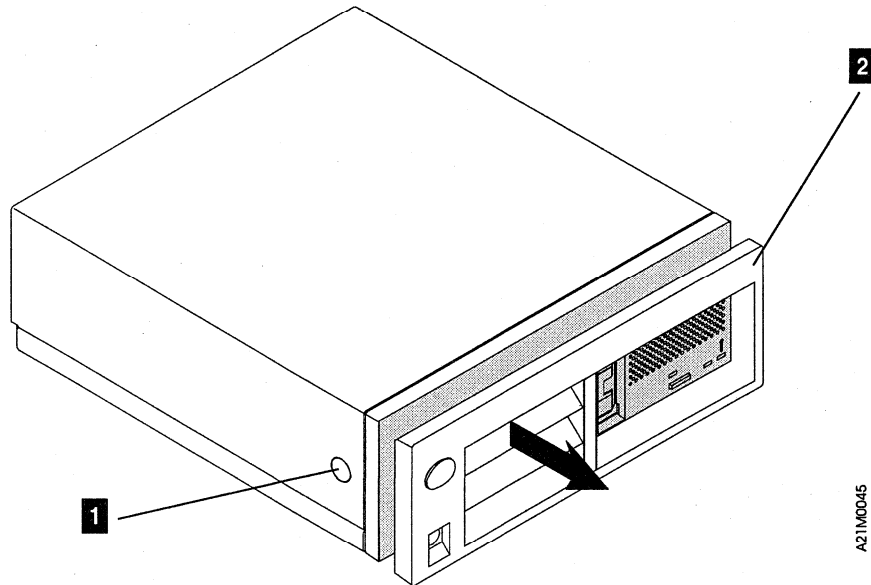

Figure 13. Removal of Model C00 Front Cover
2. Remove the front cover to expose the drive with its drive cover by pressing the buttons on each side of the front cover and pulling forward (see **1** and **2** in Figure 13).
**Note:** There is a corresponding tab on the opposite side of the chassis to the one shown as **1** in Figure 13.